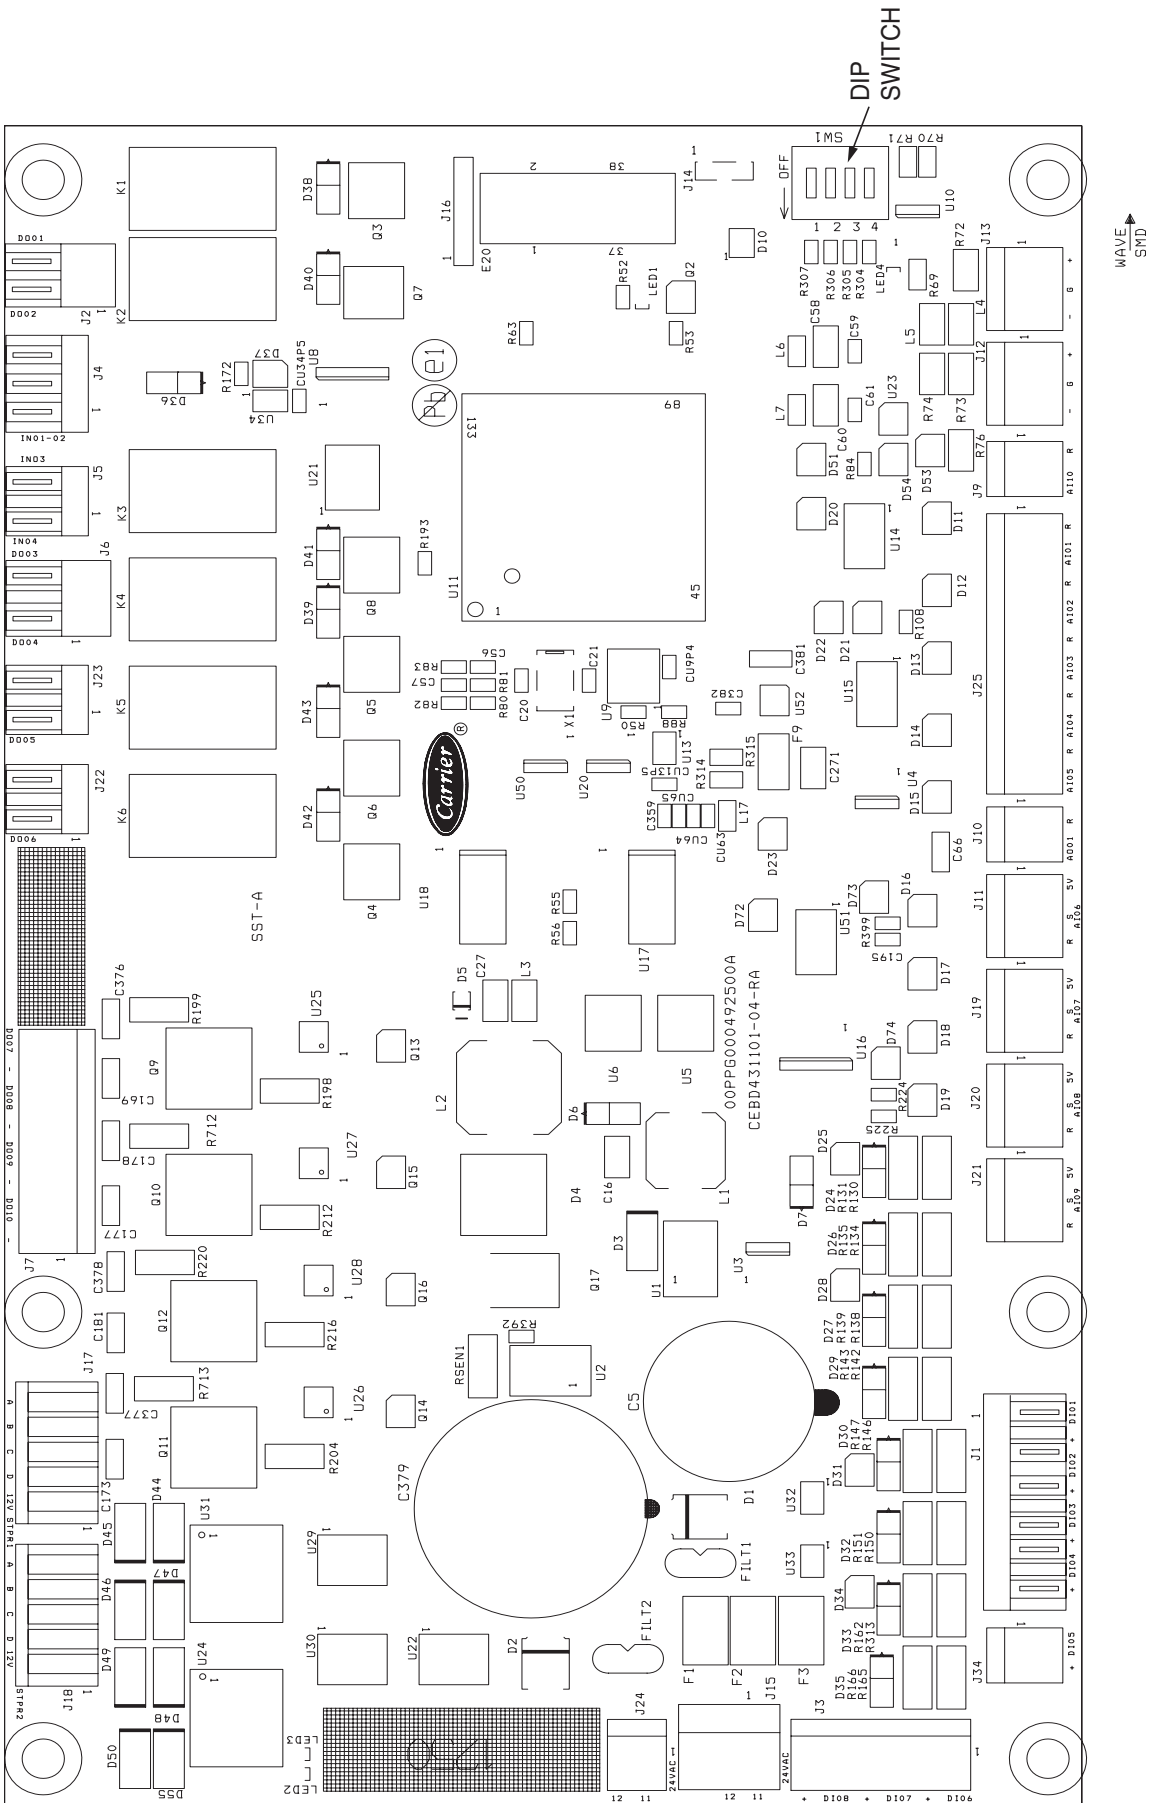

**Fig. 16 — SIOB (Standard Input/Output Board)**
**Input/Output (SIOB) Boards** — There are two SIOB (Standard Input/Output Boards) boards for each unit, SIOB-A for Circuit A and SIOB-B for circuit B. See Fig. 16. The device receives inputs from thermistors, transducers, demand limit switch, dual setpoint switch, remote-on-off switch, chilled water flow switch, oil level switch, and cooler heater current sensing switch, and provides output control to expansion valves, load and unload solenoids, cooler heater contactor, customer supplied alarm, and running relays. Information is transmitted between the SIOB board and the main control board via a 3-wire communication bus or LEN (Local Equipment Network). Connections for the LEN bus are J12 and J13. Each SIOB board has a 4-position DIP switch bank used for addressing of the board. SIOB-A is at address 49 and SIOB-B is at address 50. See below for SIOB board DIP switch settings. See Tables 4 and 5 for a list of inputs and outputs for the two SIOB boards.